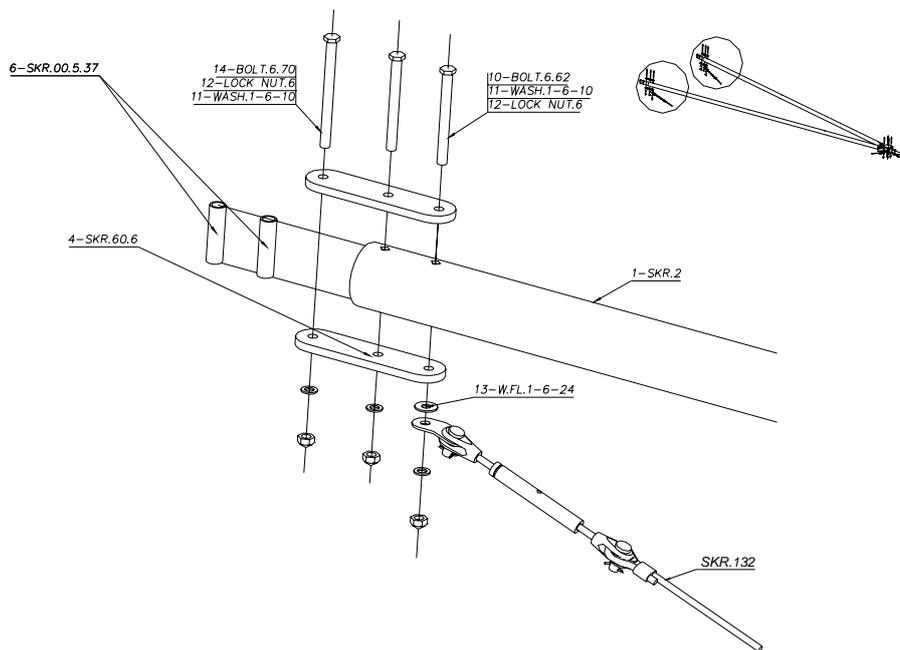

Figure 62; forward end of upper rear fuselage tubes.
- b) Prepare the front ends of the upper tubes, Figure 62.